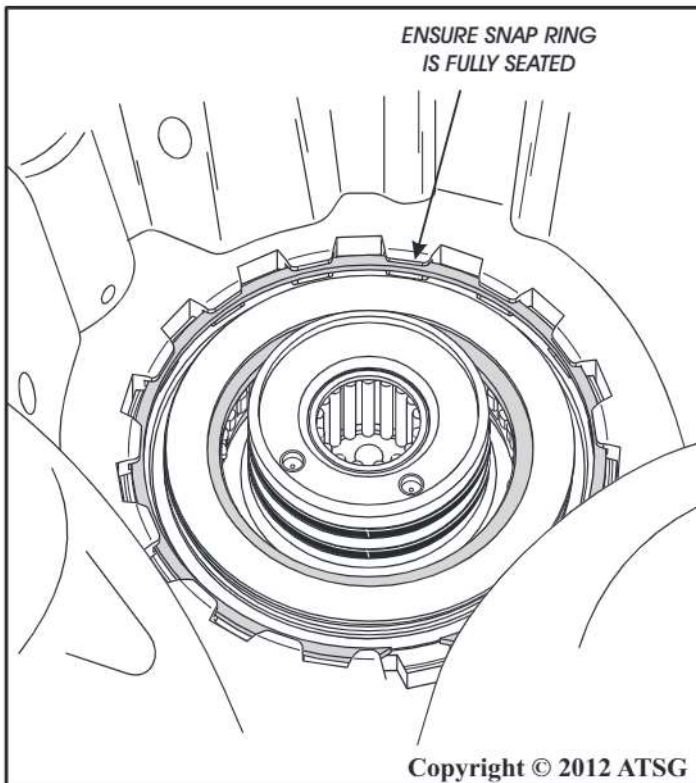

Figure 105
19. Install the reduction sprag assembly retaining snap ring, as shown in Figure 104, and ensure that it is fully seated (See Figure 105).
20. Ensure that reduction sprag retaining snap ring is fully seated in groove, as shown in Figure 105.